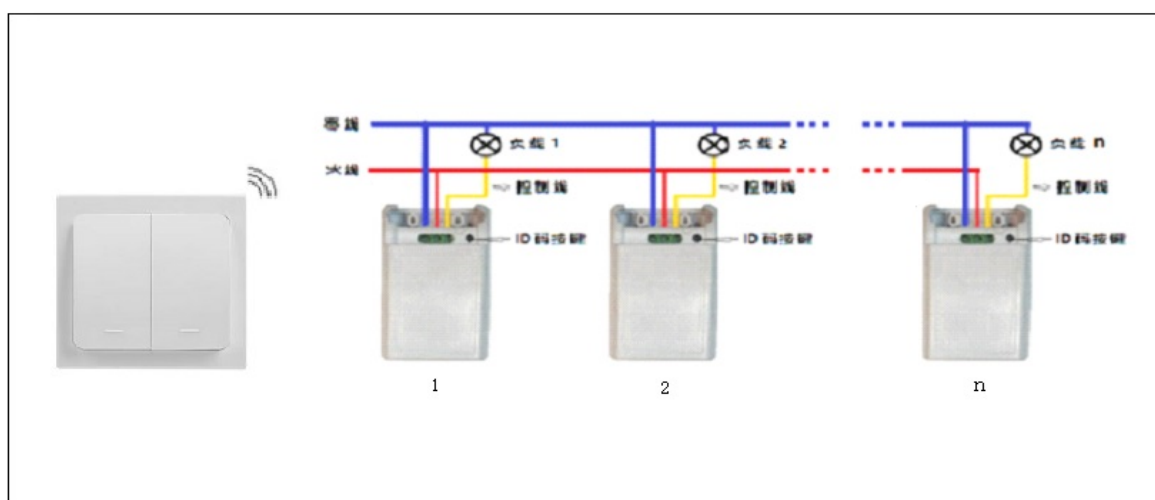

Figure 2
- 1 > when one switch controls multiple controllers, repeat the above operation, with a maximum of N controllers. (See Figure 2).